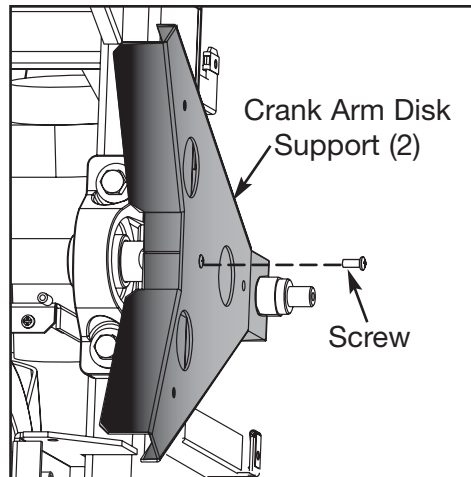

Figure 20
- A. Using a Phillips head screwdriver, remove the one screw securing each crank arm disk support in place. See Figure 20.
- A. Using a Phillips head screwdriver, attach each crank arm disk support with one screw removed during step 7A. See Figure 20.